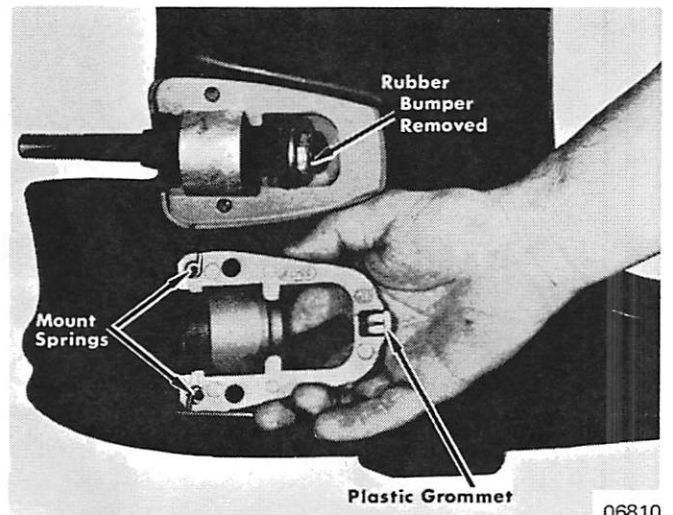

Figure 5. Rubber Mount Clamp Removal
9. Remove 2 cap screws and remove mount clamp. Rubber mount may be removed. (Figure 5)
7. Place lower mounts on bolts and position in recesses in drive shaft housing. (Figure 5) Place washers on threaded end of bolt. Install mount clamp.